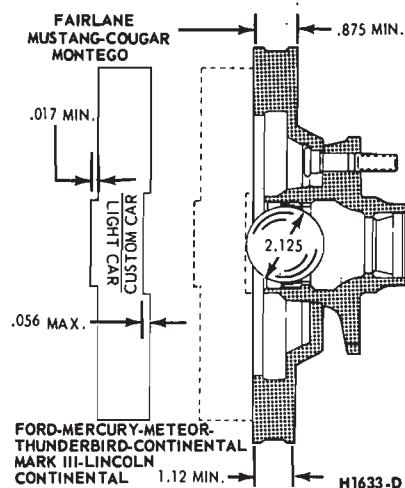

FIG. 16—Disc Brake Rotor Service Limits
ish of the braking surfaces are to be 80/15 micro inches. The minimum limiting dimensions (Fig. 16) from the inboard bearing cup to the outboard rotor face and from the inboard bearing cup to the inboard rotor face must be observed when removing material from the rotor braking surfaces. On all models the limiting dimensions are to be measured with the ball and gage bar (Rotunda Kit FRE-70160).
Refer to Fig. 16.
brake rotors require refinishing. Gauging of the rotor is accomplished on the bench prior to mounting in a rotor lathe. A controlled dimension notch machined in one edge of the gauge bar identified custom car (Ford, Mercury, Meteor and Thunderbird, Continental Mark III and Lincoln Continental). The opposite raised center of the gauge bar is identified light car (Montego, Fairlane, Mustang and Cougar). Refer to Fig. 16.
3. Position the gauge bar across the rotor inner braking surface and over the gauge ball (Fig. 16). Measure the distance between the gauge bar and ball. This clearance is equal to the maximum allowable stock removal. If the gauge bar touches the ball, no additional stock removal is allowed. If the gauge bar is below the top of the ball, the rotor must be replaced.